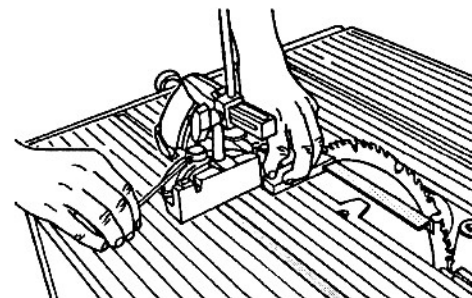

Fig. B-43
42. Adjust the miter gauge so it is square to the saw blade, then use the Allen wrench to tighten the miter gauge knob, as shown in Fig. B-43.